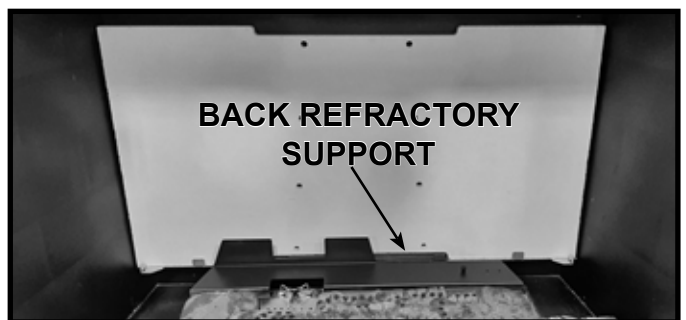

Figure 6 Back Insulation Board Installed
7. Install back insulation board by positioning it at the rear of the firebox and behind the refractory support tabs as shown in Figure 6.